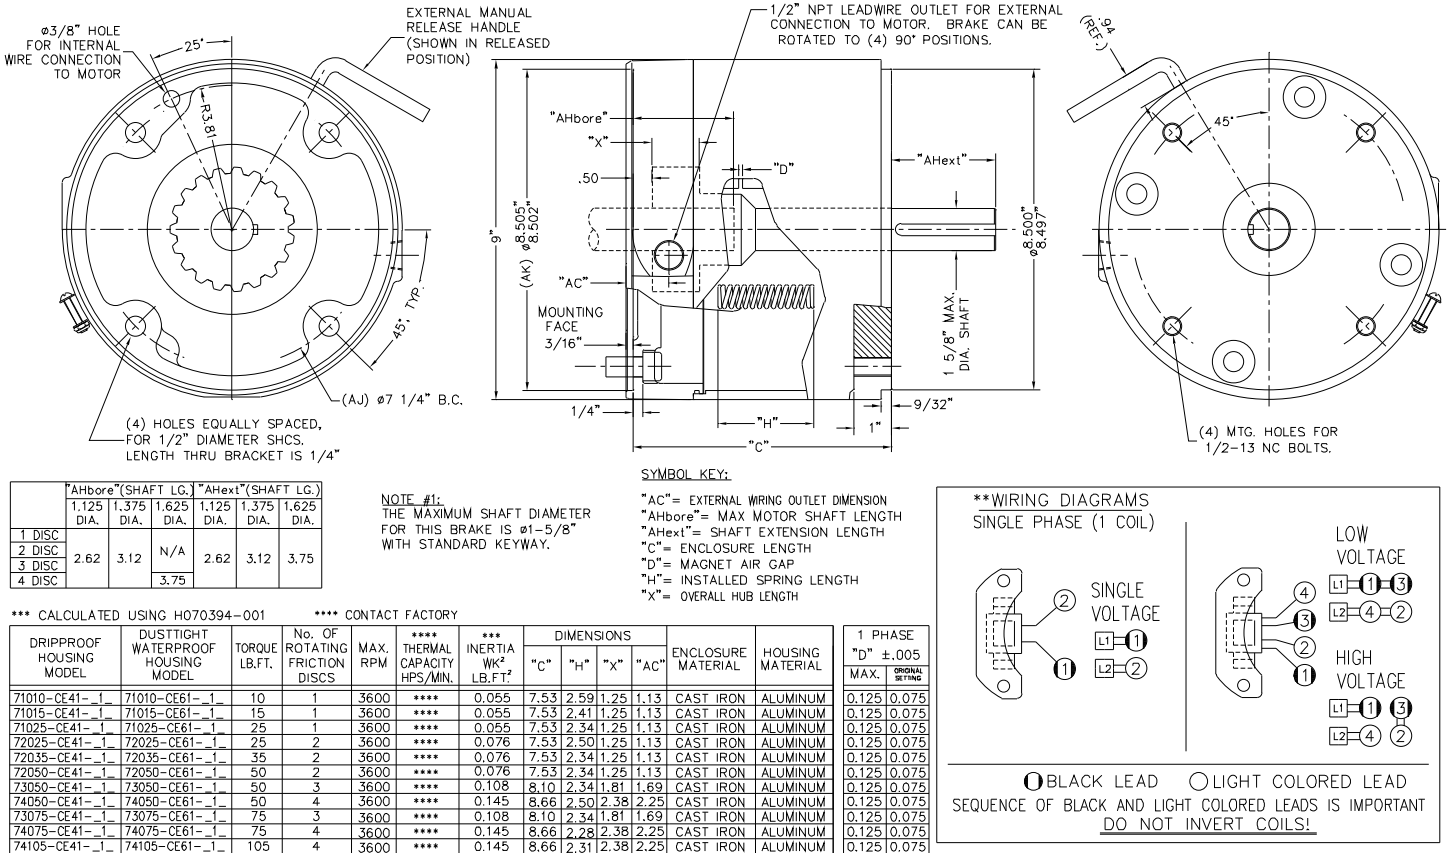

Figure 1 - Brake Outline
(See Figures 1, & 2, Table 1)
4. Insert and install the 1/2 SHCS through the housing windows at four spots and secure and tighten each one to motor "C" face using an extended length ball end hex key brake. See Figure 1 to help in determining proper bolt length. Final bolt thread pitch, length and mounting torque is dependent on the material and depth of the threaded holes in the mounting face.
7. Connect coil leads per appropriate wiring diagram in Figure 1.